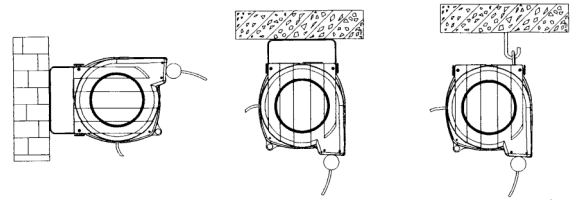

Fig.3
2) Otherwise, the reel can use vertically when you hang in an overhead suitable beam or rafter (Fig.3).